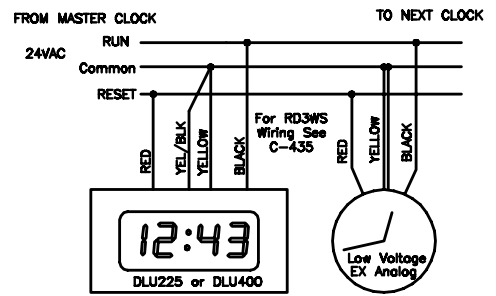

Fig. 3
Wiring as Figure 3, the DLU225 and DLU400 digital clocks are wired the same as a low voltage synchronous analog system. This allows the DLU digital clock to be intermixed with analog clocks on the same circuit from the master clock. Wiring as Figure 4 will allow the DLU digital clock to be powered by 120VAC. This requires the appropriate DxT-120/24 Transformer. With the correction format (cf) set to 06, the clocks will keep time during power outages. The time is synchronized by the master clock every hour using the existing synchronous clock format. When cf is set to 00, the time will reset to 12:00 each power up. Reset Options: (Figure 3 and 4 with National EX Series Synchronous Clocks)
2. Synchronous Clock Resets (Fig.3 and 4 with Synchronous Clocks by others)